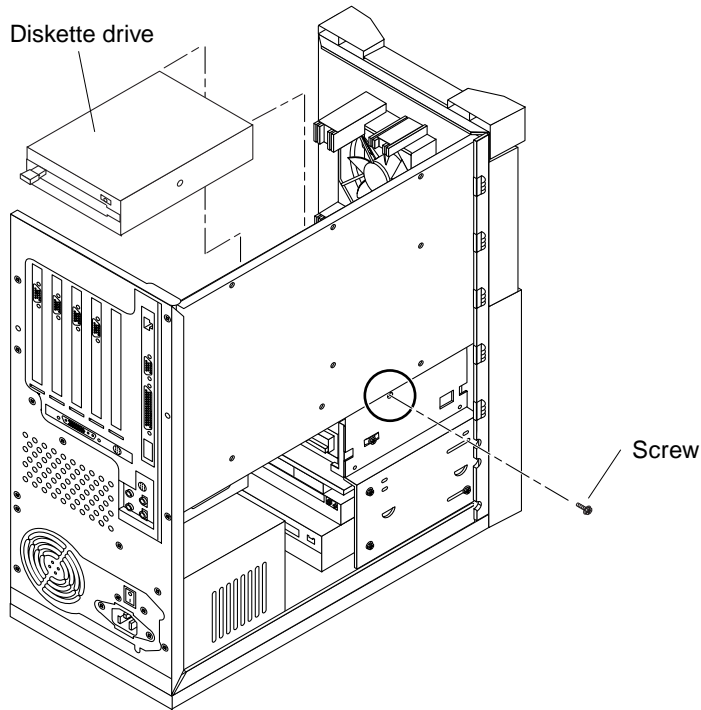

FIGURE 7-1 Removing and Replacing the Diskette Drive
2. **Remove the diskette drive as follows (FIGURE 7-1):**
1. **Replace the diskette drive as follows (FIGURE 7-1):**